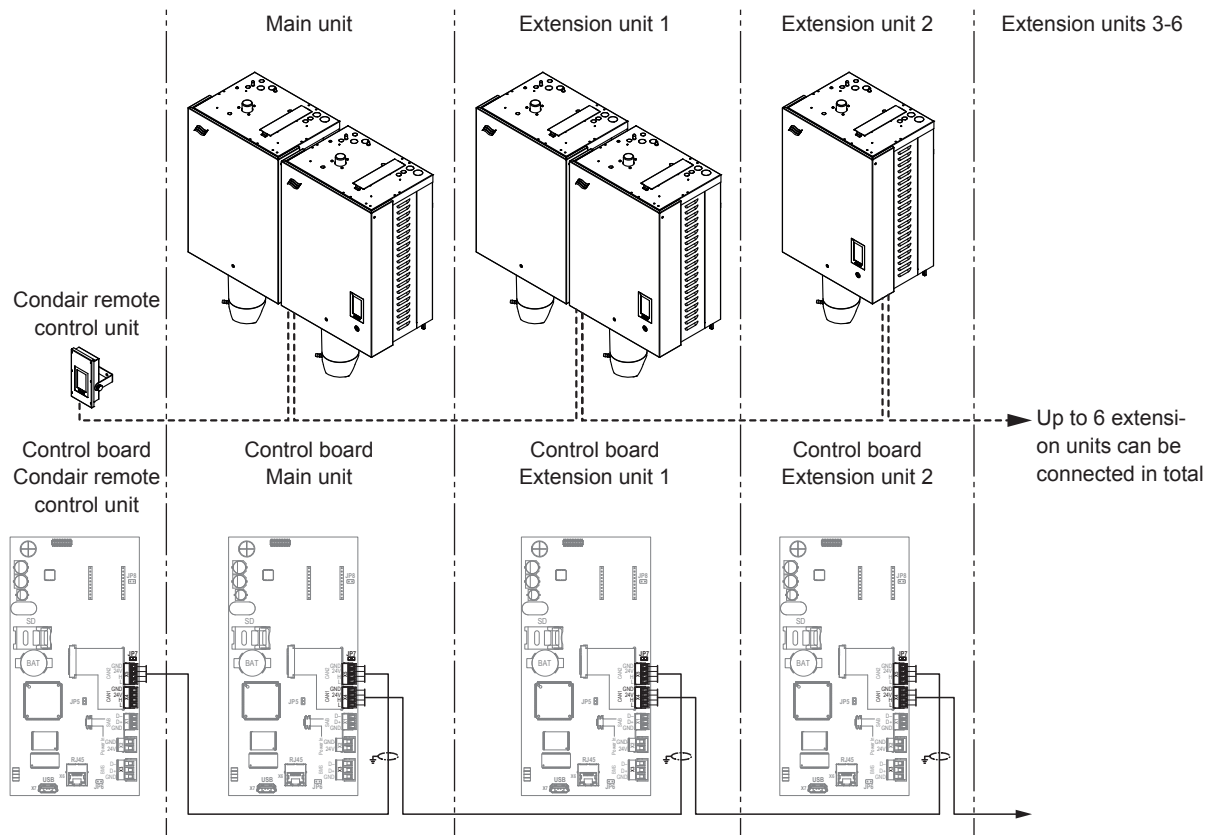
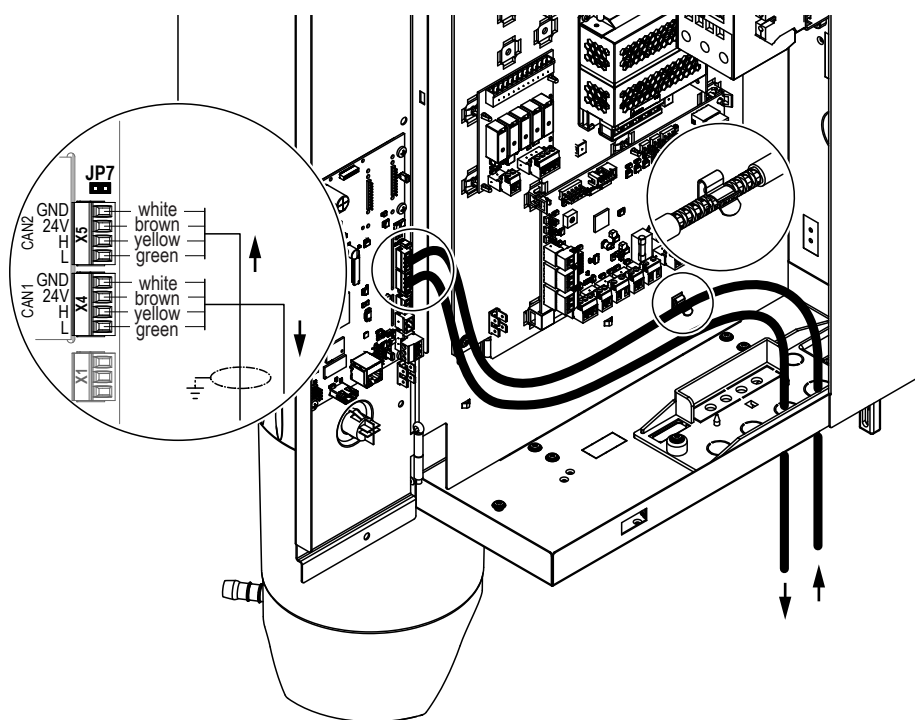

Fig. 28: Connecting multiple units (device interconnected system)
Fig. 29: CAN Bus cable connection / Shielding
Connect multiple units as follows (see Fig. 28):
2. Connect all devices in the "device interconnected system" using the supplied pre-assembled CAN Bus cables according to the diagram shown in Fig. 28 and Fig. 29.
- Pinch the freed shielding of the pre-assembled CAN Bus cable coming from the previous device into the clamp holder inside the control compartment of the Condair Omega Pro as shown in Fig. 29.
- Connect CAN Bus cables to the corresponding terminal block (incoming cables to "X5" and outgoing cables to "X4") as shown in Fig. 29 on the control board of each device.